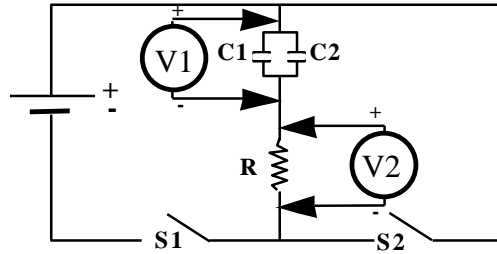

Figure 8. Capacitors in parallel
- Place **two** capacitors in parallel as in the circuit in Figure 8. (Note that just plugging the two capacitors in on top of each other puts them in parallel.)